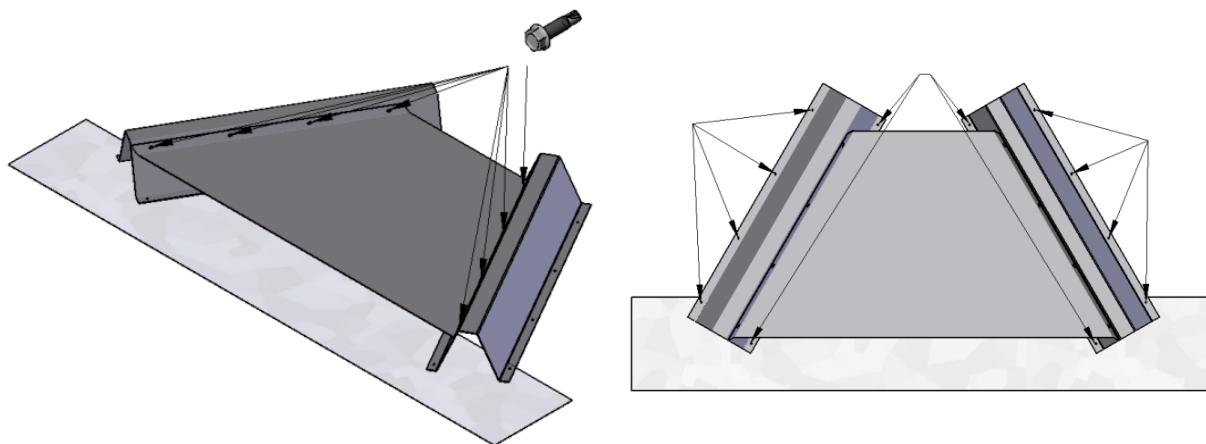

FIGURE 7 ASSEMBLING AND INSTALLING THE FIREPLACE BOTTOM STANDOFF
2. Next, assemble the bottom standoff shield to both supports (see Figure 7) using eight large self-tapping screws (provided).
4. Using at least $1\frac{1}{2}$ " wood screws (not provided), solidly attach both left and right sides of bottom standoff to the floor, as well as the front and back of the inner sides, as shown in Figure 7. If possible, attach the bottom standoff to the floor joists below using 3" wood screws (not provided).